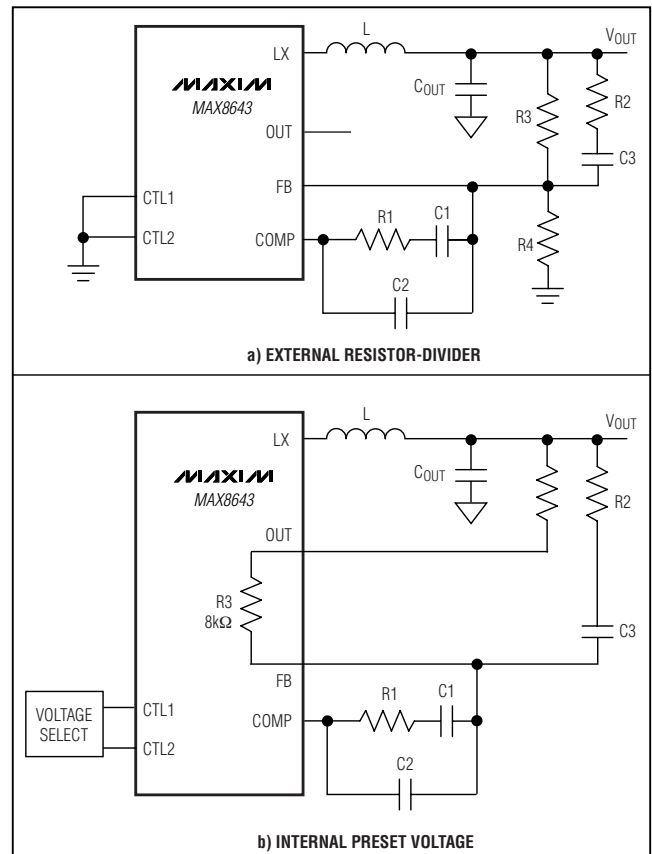
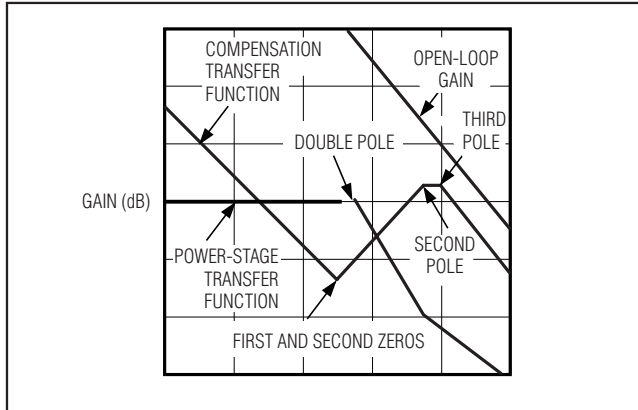

Figure 3. Type III Compensation Network
Figure 4. Type III Compensation Illustration
The high switching frequency range of the MAX8643 allows the use of ceramic output capacitors. Since the ESR of ceramic capacitors is typically very low, the frequency of the associated transfer function zero is higher than the unity-gain crossover frequency,  $f_c$ , and the zero cannot be used to compensate for the double pole created by the output filtering inductor and capacitor. The double pole produces a gain drop of 40dB/decade and a phase shift of 180°/decade. The error amplifier must compensate for this gain drop and phase shift to achieve a stable high-bandwidth closed-loop system. Therefore, use type III compensation as shown in Figure 3 and Figure 4. Type III compensation possesses three poles and two zeros with the first pole,  $f_{P1\_EA}$ , located at zero frequency (DC). Locations of other poles and zeros of the type III compensation are given by: